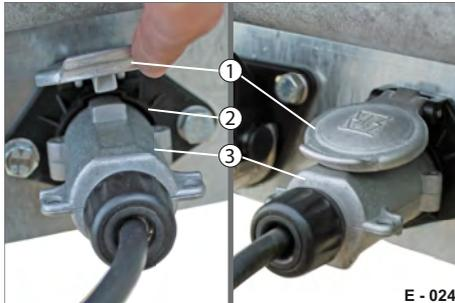

Fig. 8 Plug, parked
- ▶ Open the cover (Fig. 8/1).
- ▶ Pull the plug (Fig. 8/3) out of the parking socket (Fig. 8/2) - do not pull on the cable.